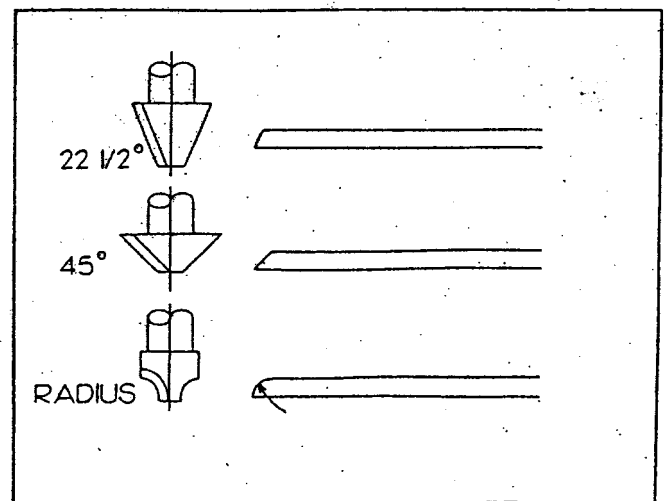

Figure 12
- Bevel edges using either a 22-1/2° or 45° carbide, 2 fluted chamfer bit or a 1/8" radius round over ball bearing guide bit. **Use a bit that is the same thickness as the *Imagicor!* sheet.** See Figure 12